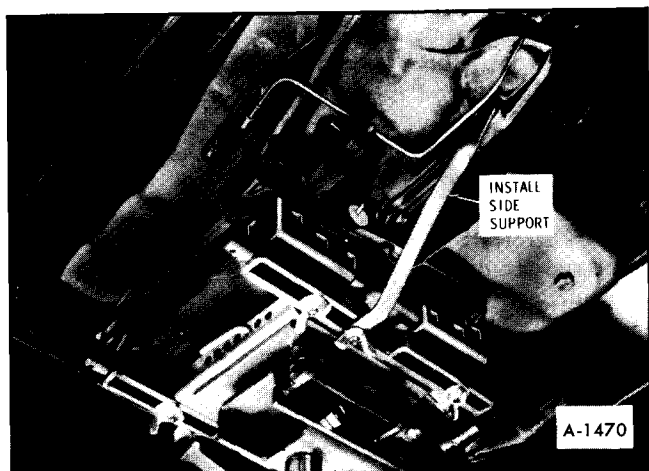

Figure 64—Transmission Jack Installation
17. Position transmission jack under transmission as shown in Figure 64.
18. Remove six (6) bolts that attach the flywheel housing to the engine.